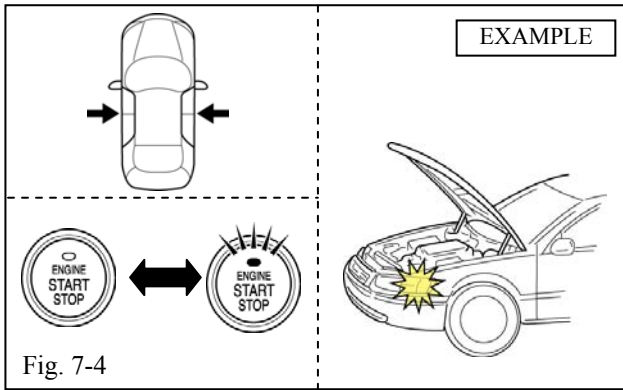

Fig. 7-4
- (e) Ensure all Doors are closed and the Smart Key is in your possession. (Fig. 7-4)
- (f) Cycle the Vehicles “Engine Start Stop” Button from “OFF” to “ON” 5 times. (Fig. 7-4)
- (1) Place the Shift Lever in the "P" (parking) or "N" (neutral) Position.
- (g) Once the fifth cycle has been completed, the Hazard Lights Flash once. (Fig. 7-4)